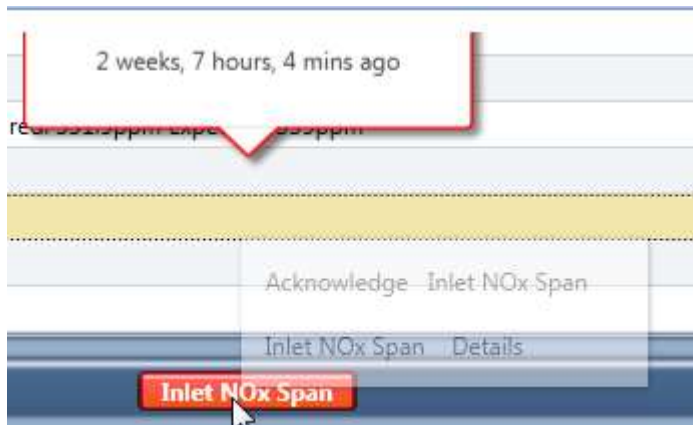

Figure 4-2 Acknowledge Alarms & Alerts
1. Hover over the Alarm/Alert, as seen in **FIGURE 4-2**. This will provide a date/time stamp of the event.